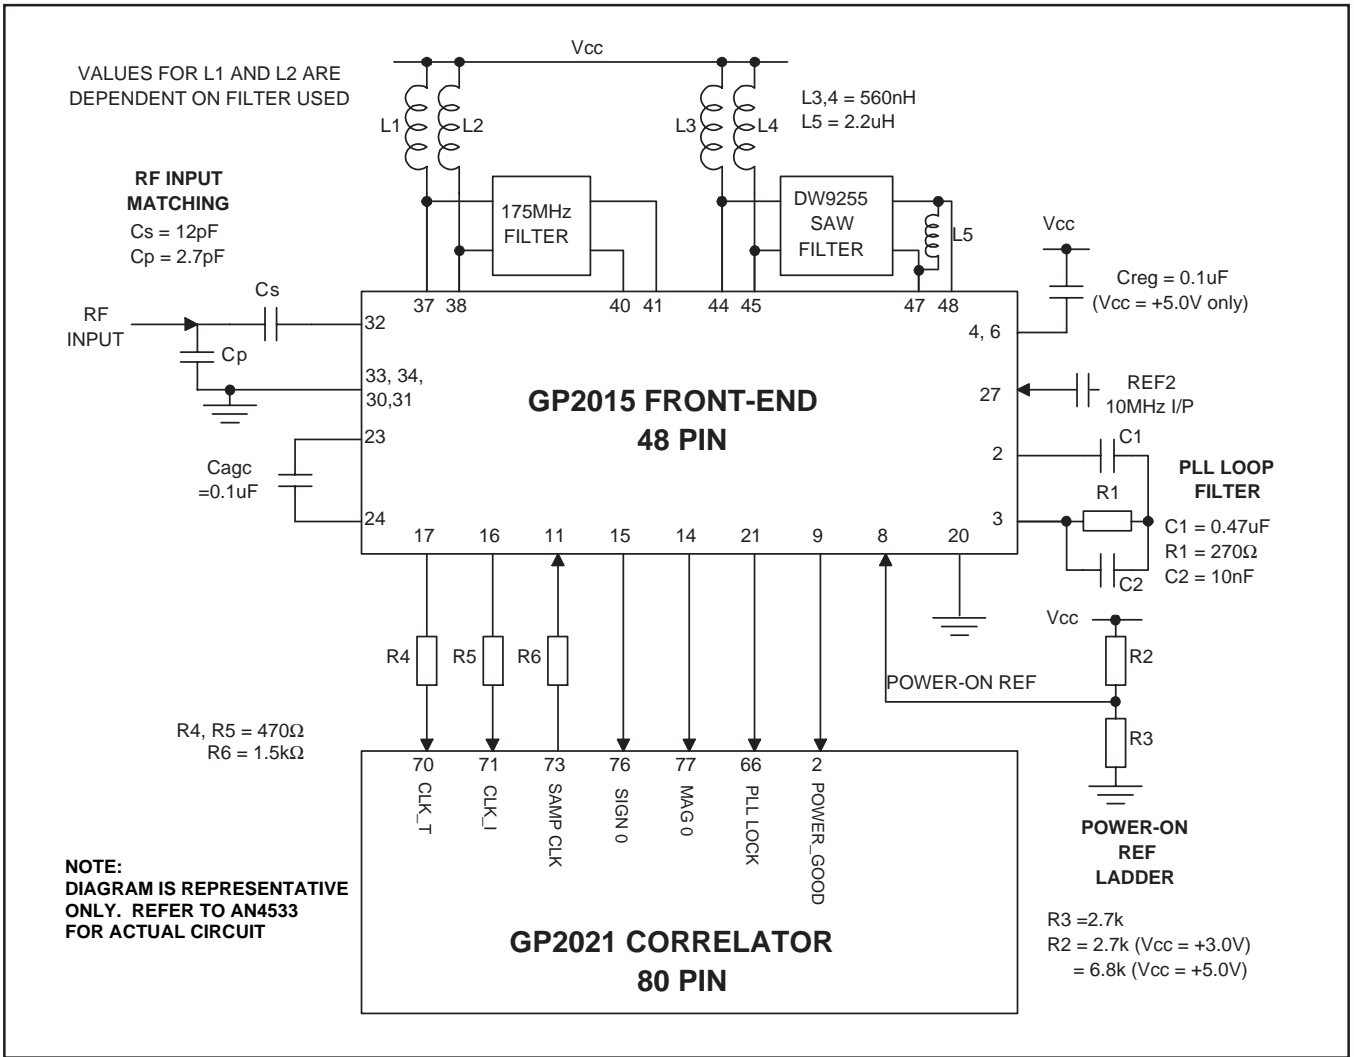

Fig. 4 GP2015 typical application
A typical application circuit is shown in figure 4 with the GP2015 front-end interfaced to the GP2021 12-channel correlator integrated circuit. The RF input has an unmatched input impedance (see page 4). The RF input matching components  $C_s$  and  $C_p$  should be mounted as close to the RF input as possible; also the Vee(RF) tracks must be kept as short as possible. A SAW filter may be used as a 175.42MHz filter, but this can be replaced by a simpler coupled-tuned LC filter if there is no critical out-of-band jamming immunity requirement. The DC bias to mixer 1 is provided via inductors L1 and L2, which may form part of the 175.42MHz filter. The output of mixer 2 requires an external dc bias, achieved with inductors L3 and L4, which also serve to tune out the input capacitance of the DW9255 SAW filter. The output of the SAW filter is tuned with inductor L5. Capacitor ( $C_{agc}$ ) determines the AGC time-constant. The PLL loop filter components are selected to give a PLL loop bandwidth of approximately 10kHz. The IF Output is normally used for test-purposes only, but is available to the user if required. Typically a low noise preamplifier (gain  $>+15dB$ ) is used between the